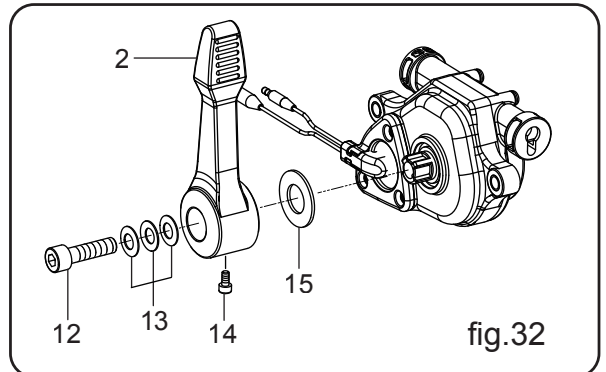

fig.32
Remove the lever (2) by unscrewing a bolt (12) after unscrewing a bolt (14). (fig.32)